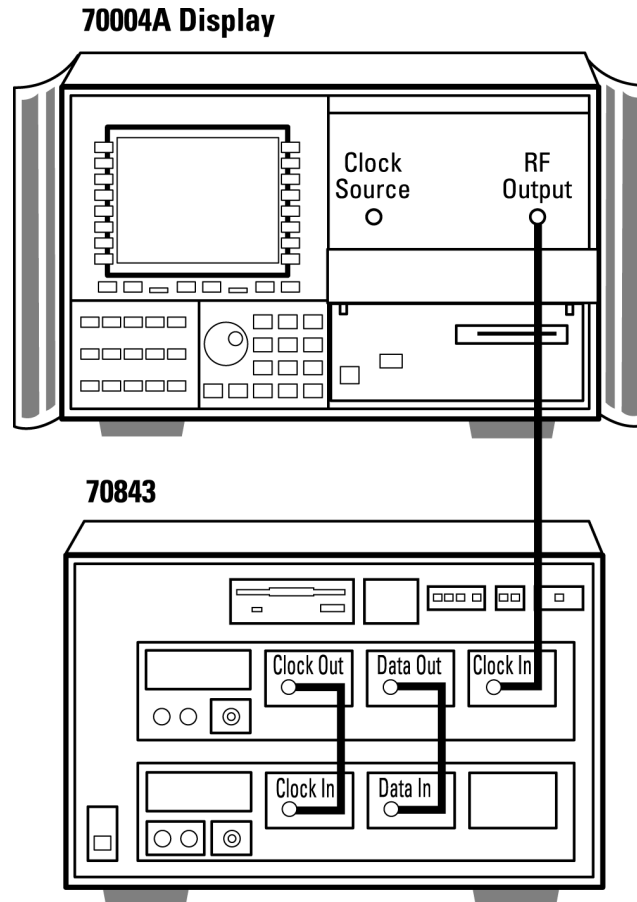

Figure 5-4 System Back-to-Back Connection
2. Connect the pattern generator DATA OUT and CLOCK OUT ports to the error detector DATA IN and CLOCK IN ports respectively. Terminate any unused ports with 50 $\Omega$  terminations (HP part number 1250-2121). See Figure 5-4 on page 5-8. Ensure the HP 70843 error performance analyzer and HP 70004A display rear-panel HP-MSIB ports are connected.